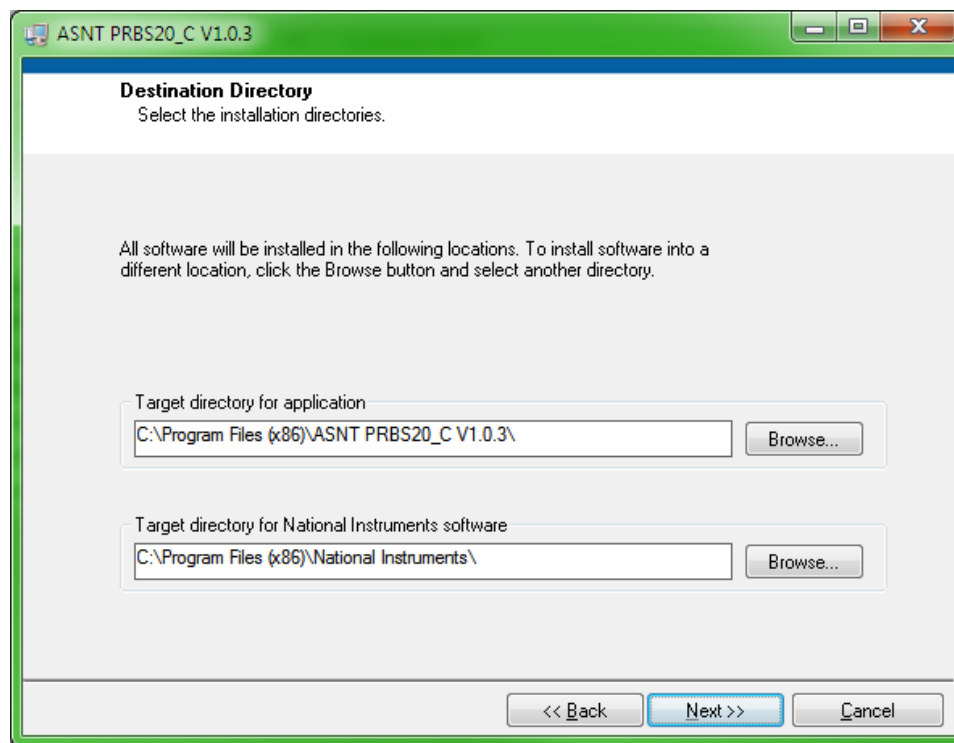

Fig. 3 Software Installation Dialog
3. Install the included software on the connected PC following the software installation dialog box as shown in **Fig. 3**.